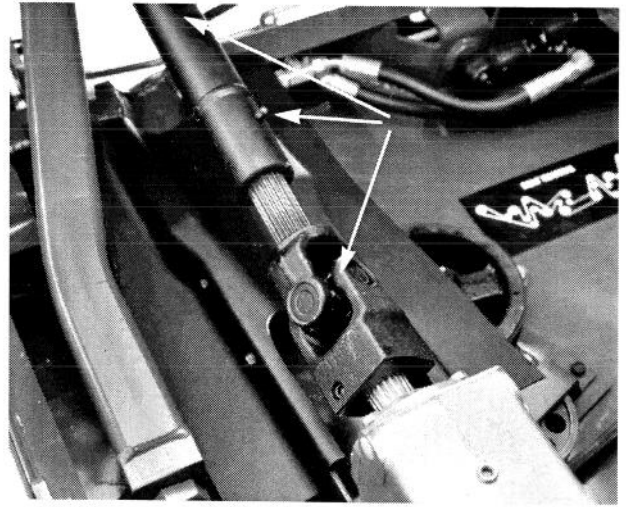
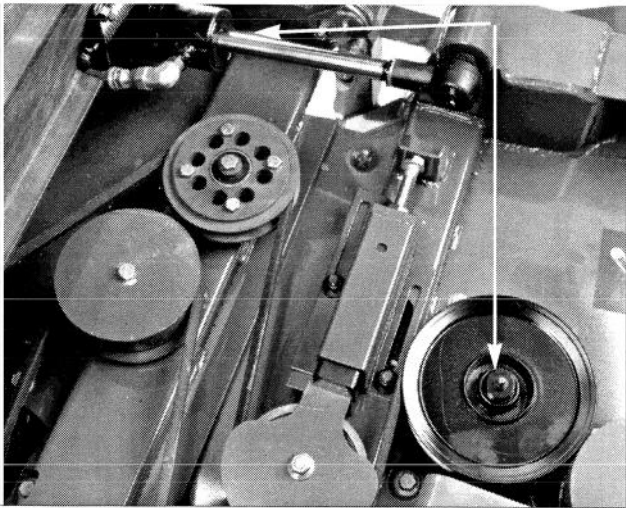
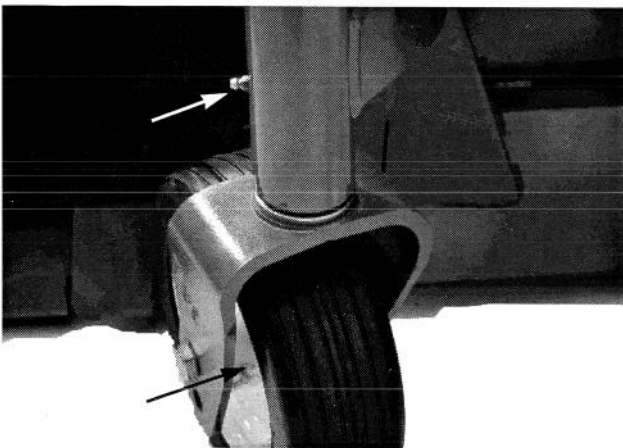

Fig. 33
Fig. 31
Fig. 32
**Cutting deck (2- & 4-wheel drive machines)**—blade spindles (7) and Wing Deck Pivot pins (4) (Fig. 31); castor wheels (6); Castor fork shaft (4) (Fig. 32); Lift arm ball joints (2) and PTO to gear box drive shaft assembly (3) (Fig. 33).